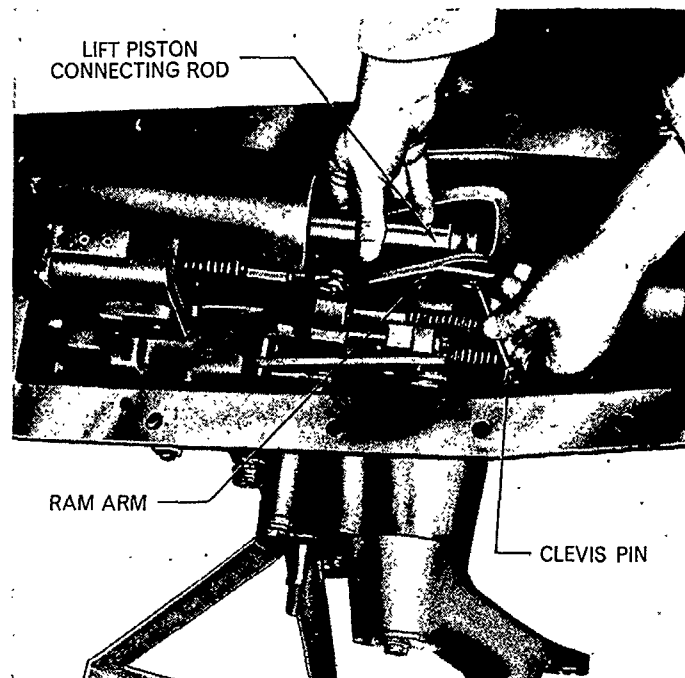

Figure 78
16. Retain the lift piston connecting rod to the ram arm with a cotter pin and clevis pin, Figure 78.